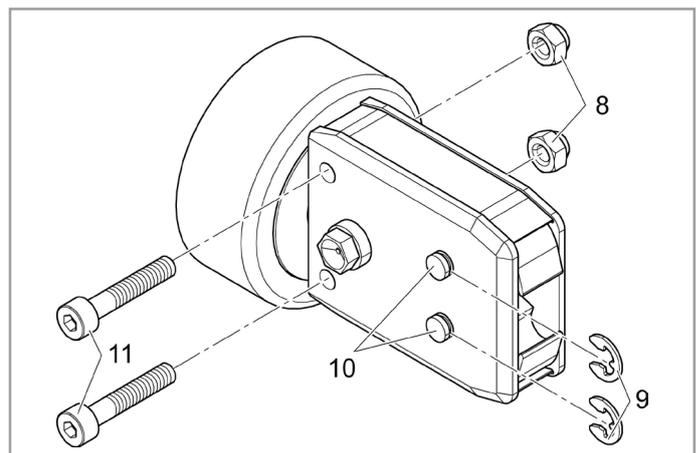

Fig. 77 *Dismantling the pincer head*
5. Remove the two retaining rings (Fig. 77/9) on the pincer head (Fig. 77/6) on the grease nipple side. Do not push the pins back (Fig. 77/10).
6. Unscrew the two hex nuts (Fig. 77/8) from the hex bolts (Fig. 77/11).